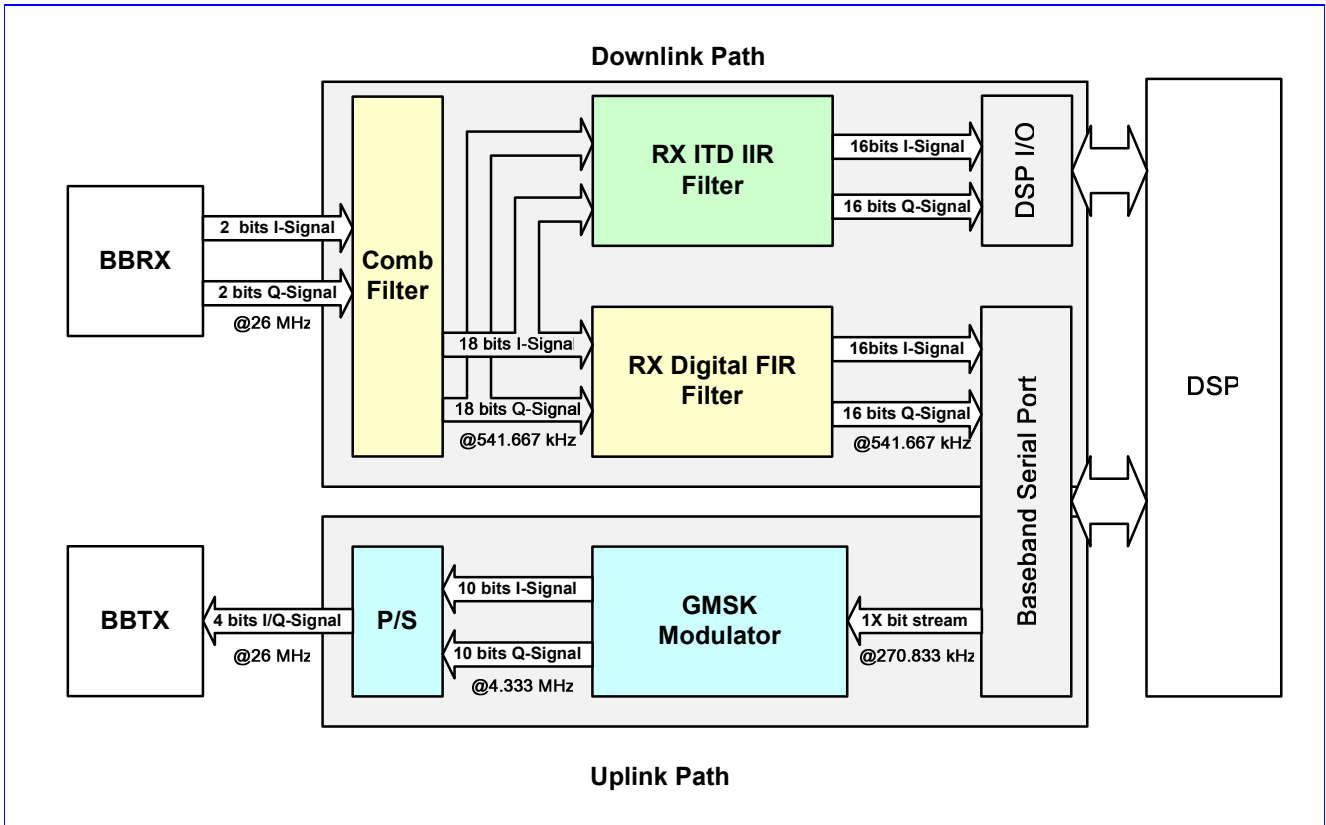

Figure 93 Block Diagram of Baseband Front End
Baseband Front End is a modem interface between TX/RX mixed-signal modules and digital signal processor (DSP). We can divide this block into two parts (see **Figure 93**). The first is the uplink (transmitting) path, which converts bit-stream from DSP into digital in-phase (I) and quadrature (Q) signals for TX mixed-signal module. The second part is the downlink (receiving) path, which receives digital in-phase (I) and quadrature (Q) signals from RX mixed-signal module, performs FIR filtering and then sends results to DSP. **Figure 93** illustrates interconnection around Baseband Front End. In the figure the shadowed blocks compose Baseband Front End.